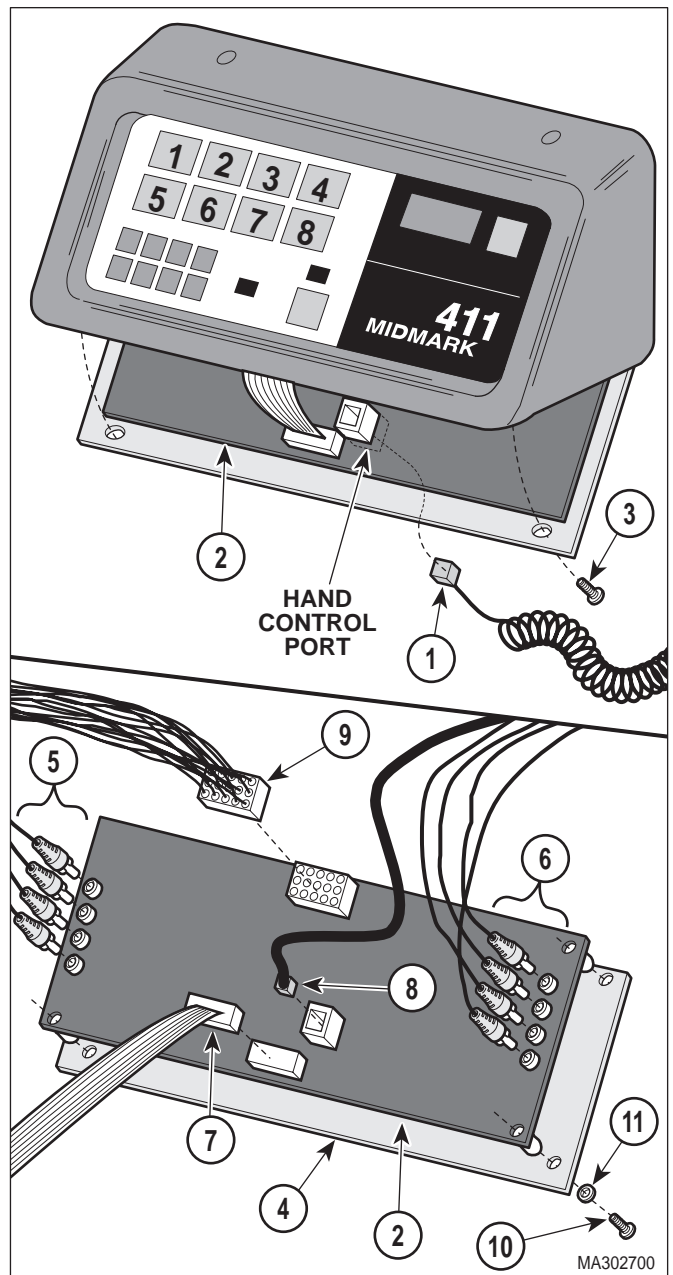

Figure 4-6. PC Logic Board Removal / Installation
- (1) Unplug table power cord from wall outlet.
- (2) Disconnect hand control coil cord (1, Figure 4-6) from hand control port of PC logic board (2).